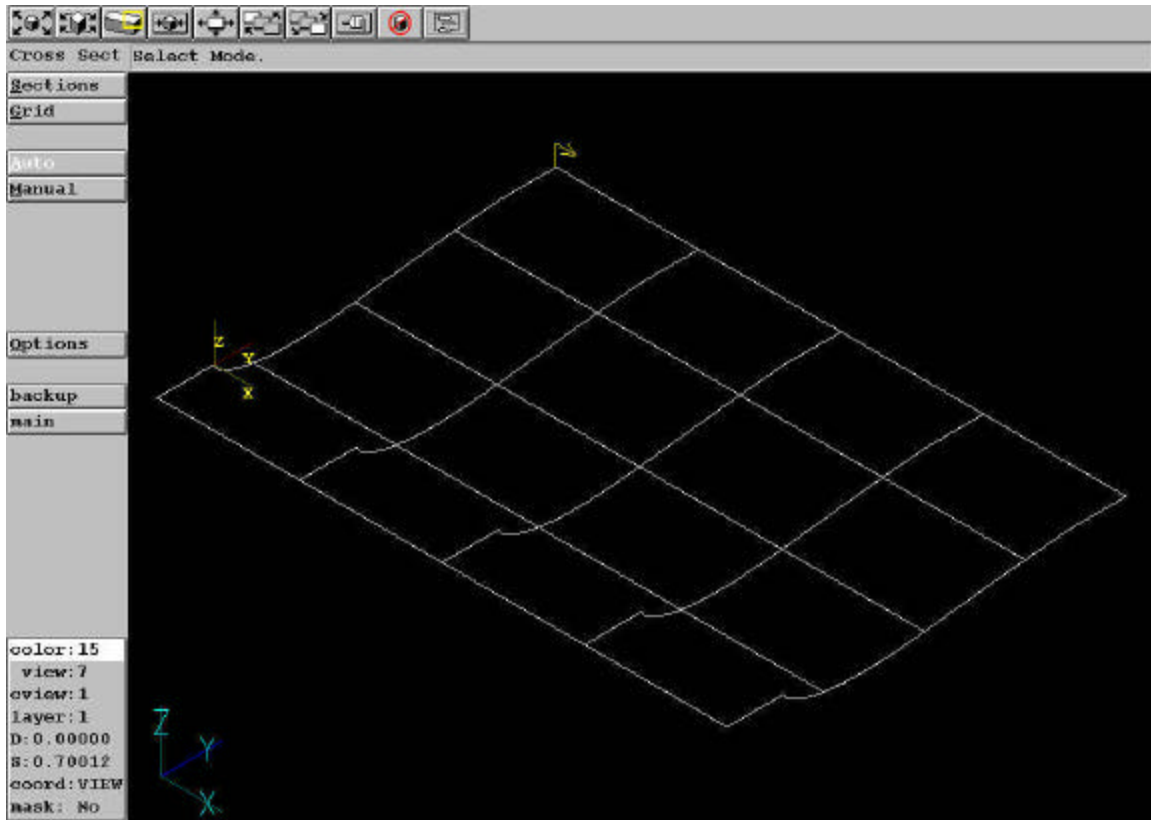

Figure 25: Mold Surface
- 5.) A surface will appear between the two cross sections, with an arrow at the back end. Refer to figure 25.